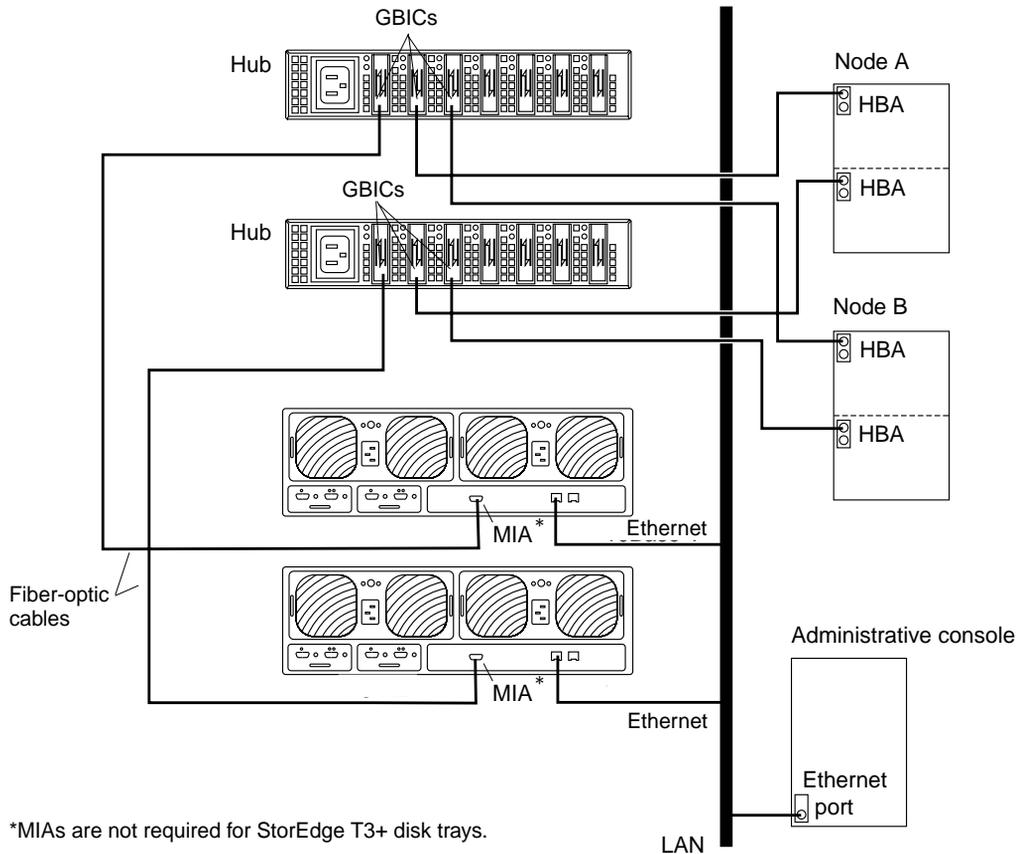

FIGURE C-1 Cabling StorEdge T3/T3+ Disk Trays in a Single-Controller Configuration
4. (Skip this step if you are installing a StorEdge T3+ disk tray) Install the media interface adapters (MIAs) in the StorEdge T3 disk trays you are installing, as shown in FIGURE C-1.
5. If necessary, install gigabit interface converters (GBICs) in the Sun StorEdge FC-100 hubs, as shown in FIGURE C-1.
6. **Install fiber-optic cables between the Sun StorEdge FC-100 hubs and the StorEdge T3/T3+ disk trays as shown in FIGURE C-1.**
7. **Install fiber-optic cables between the Sun StorEdge FC-100 hubs and the cluster nodes as shown in FIGURE C-1.**
8. **Install the Ethernet cables between the StorEdge T3/T3+ disk trays and the Local Area Network (LAN), as shown in FIGURE C-1.**
Note – Although FIGURE C-1 shows a single-controller configuration, two disk trays are shown to illustrate how two non-interconnected disk trays are typically cabled in a cluster to allow data sharing and host-based mirroring.